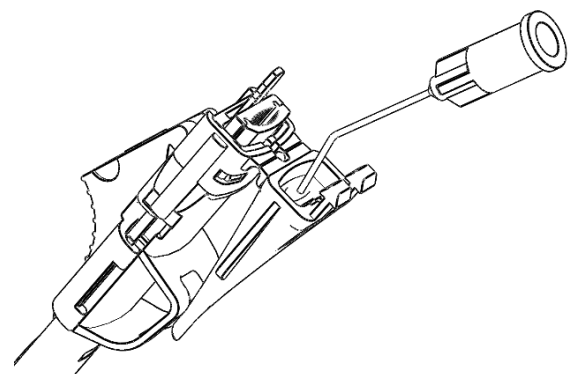

Fig. 3
5. Inject viscoelastic material into the cartridge nozzle from the back side, as shown in Fig. 3.